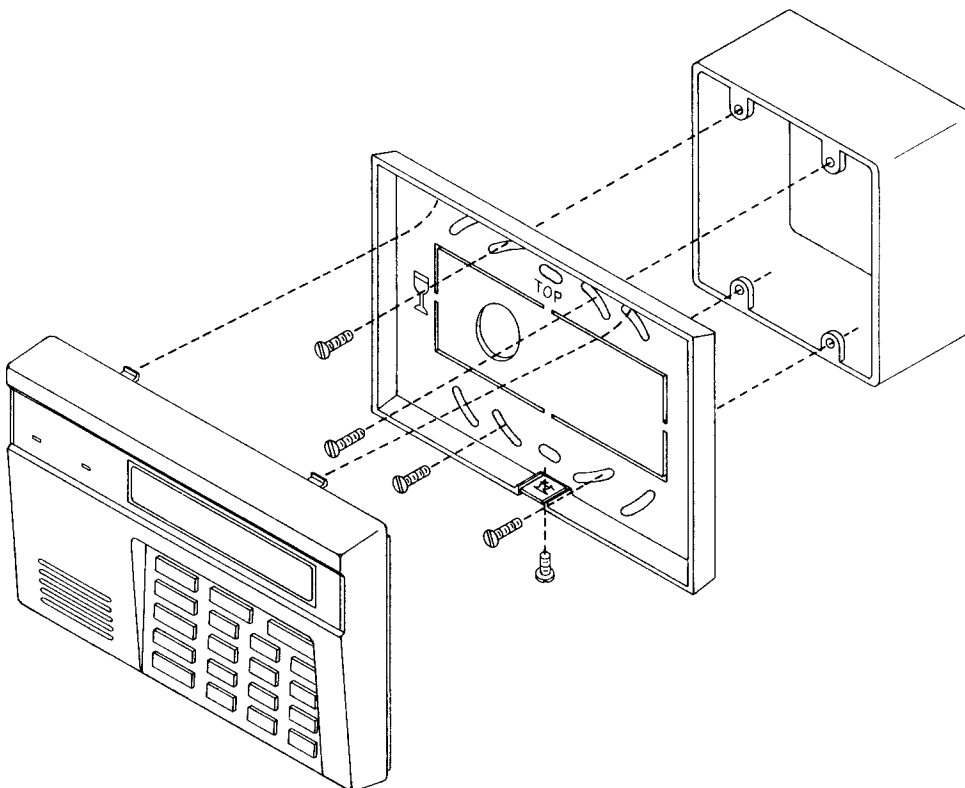

FIGURE 1
4. Loosen the retaining screw, which is located on the bottom edge, then separate the main assembly from the rear mounting plate. See Figure 1.